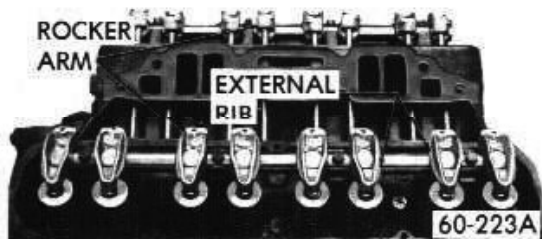

Figure 60-83 - Rocker Arms Positioned on Shaft
- Install rocker arms on shaft lubricating all parts as they are assembled with engine oil. Each pair of rocker arms must be installed so that the external rib on each arm points away from the rocker arm shaft bolt. See Figure 60-83.